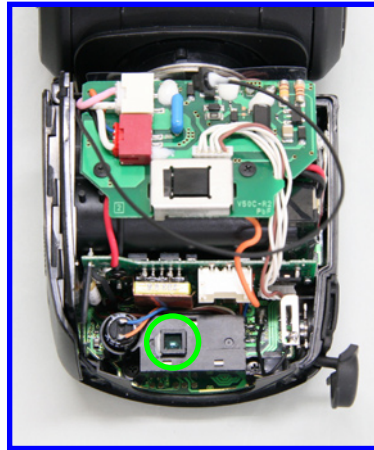

Fig. 012 Filter
- ③ Remove the ND Filter and the IR Filter from the inner connector of the PCB Ass'y (I). (Fig. 012)